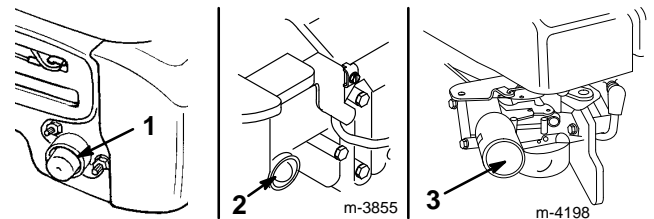

Figure 7
1. Push the primer three times (five times if you have model 20061 or the temperature is 13°C/55°F or below), waiting 2 seconds between each push (Fig. 7).